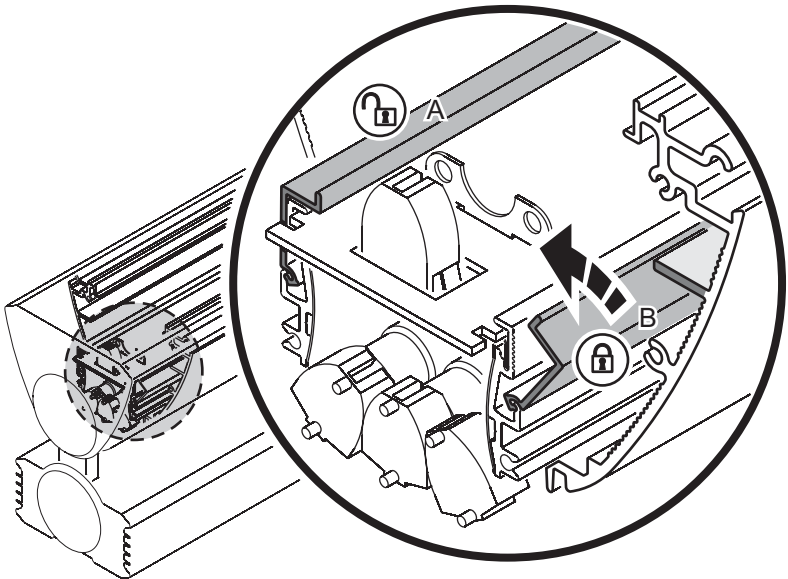

Figure 14: Removing the diffuser
5. See Figure 14. To release the diffuser, push the locking bars from position B in towards the center of the luminaire until they are in position A. Lift the diffuser out of the luminaire.